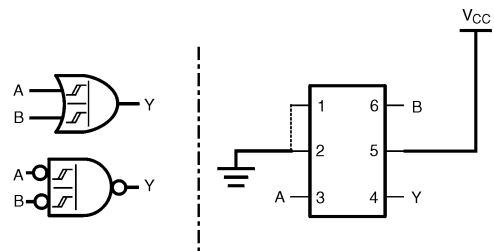

Figure 12. 2-Input OR Gate
4. CPD is defined as the value of the internal equivalent capacitance which is derived from dynamic operating current consumption (ICCD) at no output loading and operating at 50% duty cycle. (See Figure 12) CPD is related to ICCD dynamic operating current by the expression: